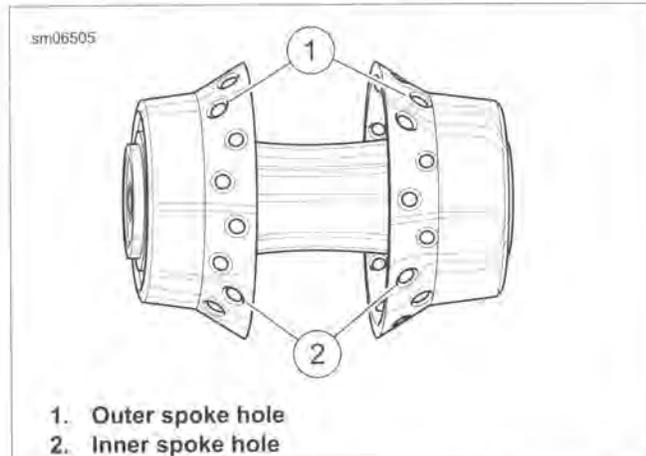

Figure 2-13. Angle Flange Hub
- See Figure 2-13. The following procedure is valid for wheels that use an angle flange hub regardless of rim style or diameter.